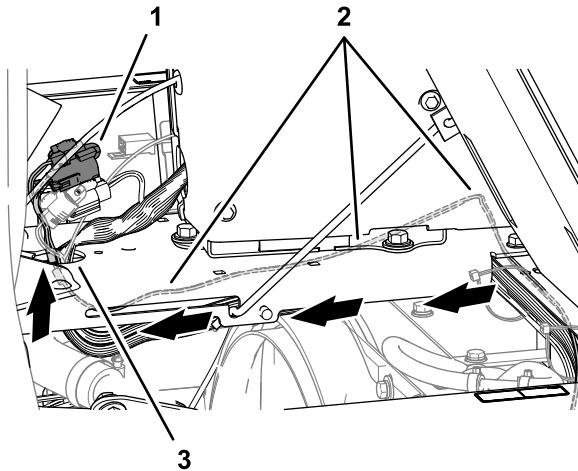

**Figure 174**
6. At the right side of the radiator, rout the ISO-CAN bus harness up, along the machine wire harness, and toward the center console (Figure 174).